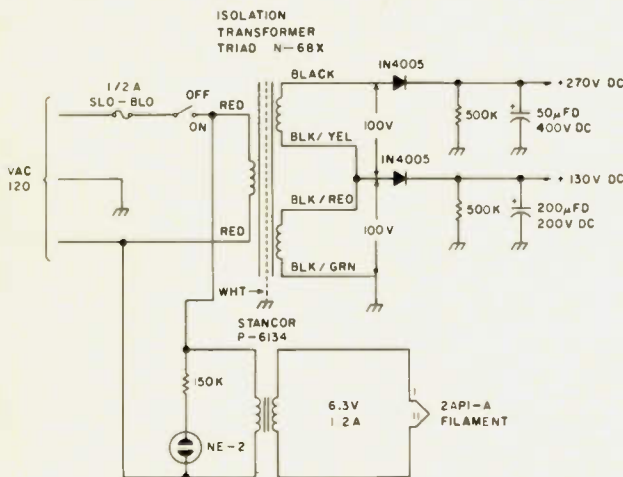

Fig. 3. High voltage power supply.
The high voltage power supply schematic shown in Fig. 3 provides the necessary voltage (270) for the deflection plates of the CRT, as well as the voltage (130) for the high voltage amplifier. The voltages are not critical, but it is important that the ripple voltage be low. The supply is connected as a simple half wave rectifier with a goodly amount of capacitance on the output to reduce ripple.